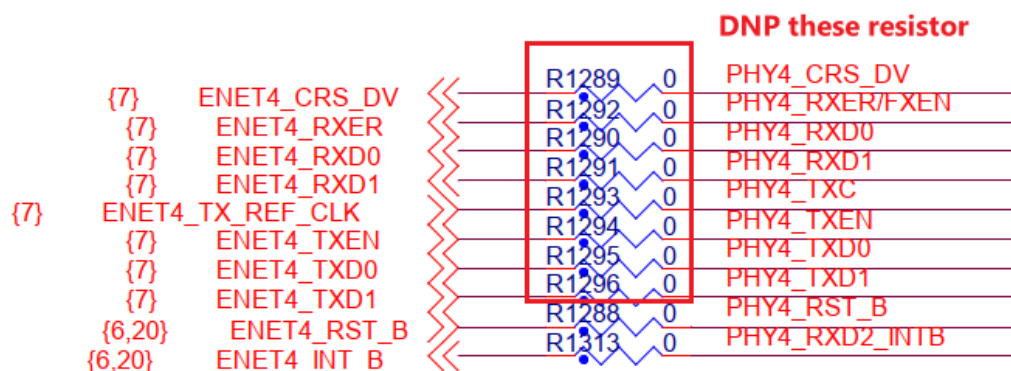

Figure 29. Step 2
2. Remove the resistors R1289 to R1296 as shown in Figure 29.